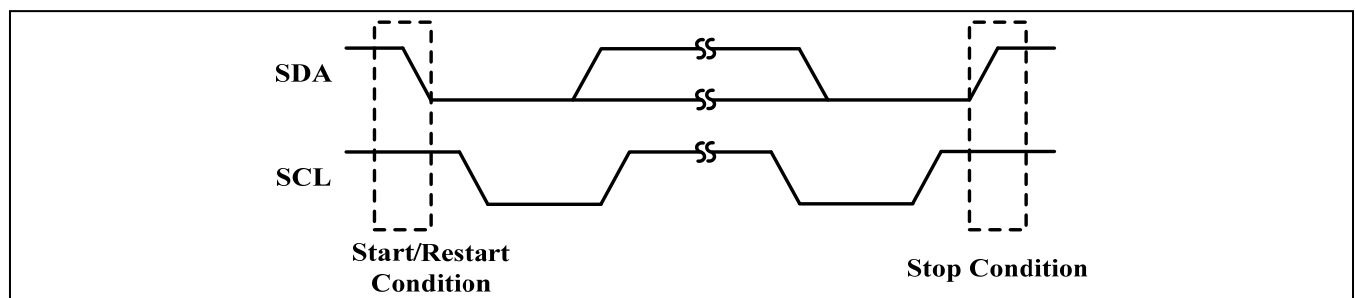

Figure 3 START and STOP Conditions
SDA operates as both an input and an open-drain output. A pull up resistor, typically 4.7k Ω , is required on SDA. SCL operates only as an input. A pull up resistor, typically 4.7k Ω , is required on SCL if there are multiple masters on the 2-wire interface, or if the master in a single-master system has an open-drain SCL output. Each transmission consists of a START condition sent by a master, followed by the IS31IO7325's 7-bit slave addresses plus R/W bits, 1 or more data bytes, and finally a STOP condition (see Figure 3).
Both SCL and SDA remain high when the interface is not busy. A master signals the beginning of a transmission with a START (S) condition by transitioning SDA from high to low while SCL is high. When the master has finished communicating with the slave, the master issues a STOP (P) condition by transitioning SDA from low to high while SCL is high. The bus is then free for another transmission (see Figure 3)